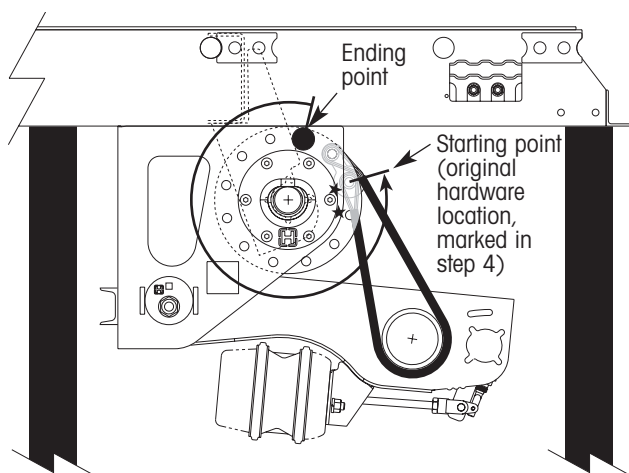

Figure 17. Torsion coil spring tension released
- Repeat steps seven through 14 until all tension is released from the torsion coil spring. A total of 300 degrees of flange plate assembly rotation (10 flange plate holes) is required to remove all tension from the torsion coil spring (figure 17).